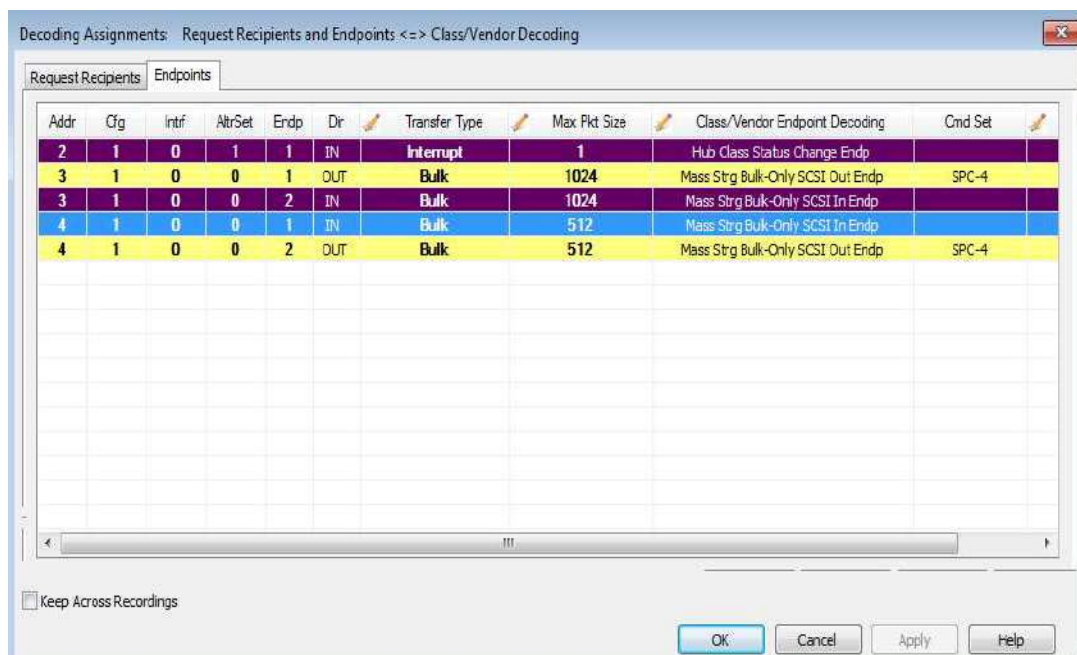

Figure 9.3: Request Recipients and Endpoints - Class/Vendor Decoding Endpoints Tab
3. Click the **Endpoints** tab to display the **Endpoints** dialog box. See Figure 9.3 on page 537.